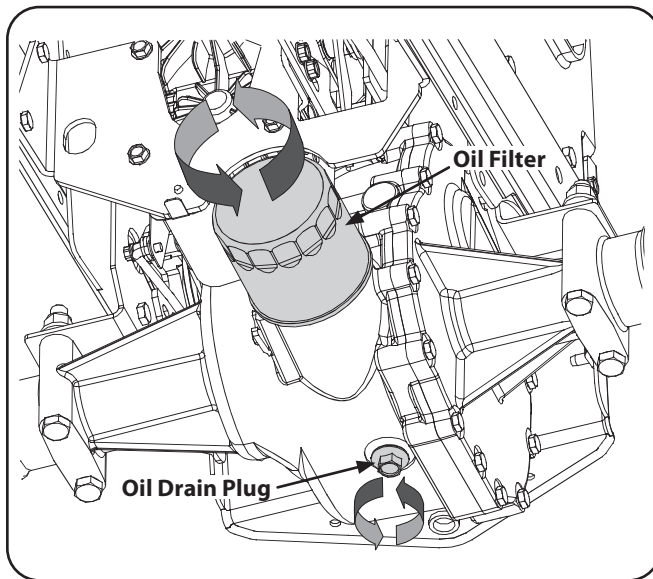

Figure 6-7
3. Remove the drain plug and allow the transmission oil to drain into a clean container having a capacity of more than six quarts. Reinstall the drain plug. See Figure 6-7.
4. Clean around the base of the transmission oil filter and remove the filter by turning it counter-clockwise. Refer to Figure 6-7.